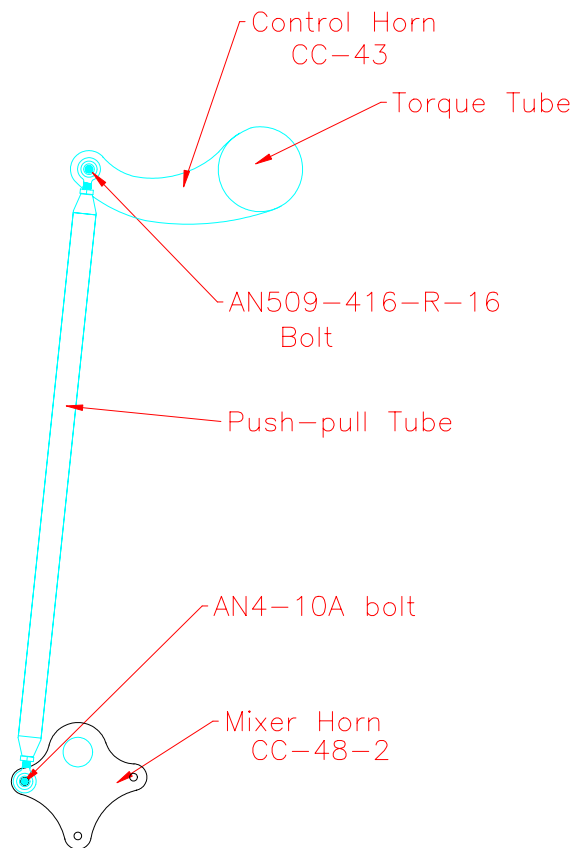

Figure 15.9.3
- 9) Adjust the rod-end bearings to fit between the mixer and horn on the torque tube. Figure 15.9.3. Bolt the push-pull tube to the torque tube horn with AN509-416-R-16 countersunk bolts, AN970-4 penny washer and AN365-428 fibernut.